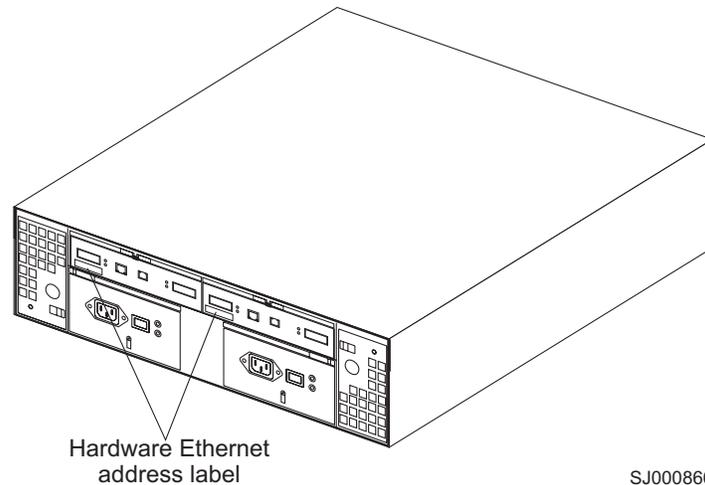

Figure 17. Locating the Ethernet MAC address (machine types 3542 [FAST200], 1724 [DS4100], and 1722 [DS4300])
1. Locate the Ethernet MAC address at the back of the unit, under the controller fibre channel host ports, as shown in Figure 17 on page 47. The number will be in the form xx.xx.xx.xx.xx.xx (for example, 00.a0.b8.20.00.d8).